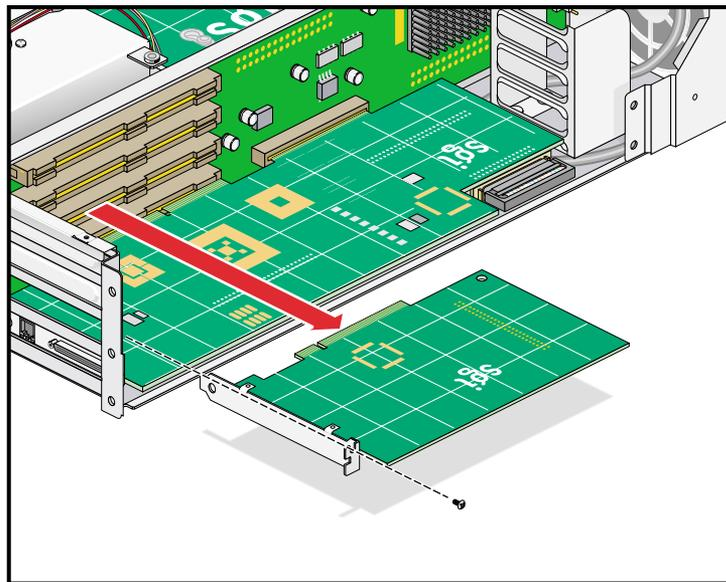

Figure 7-8 Removing the Retaining Screw and Extracting a Card
7. To remove and replace a PCI card from a module, undo the retaining screw holding the card in place and extract it, as shown in Figure 7-8.